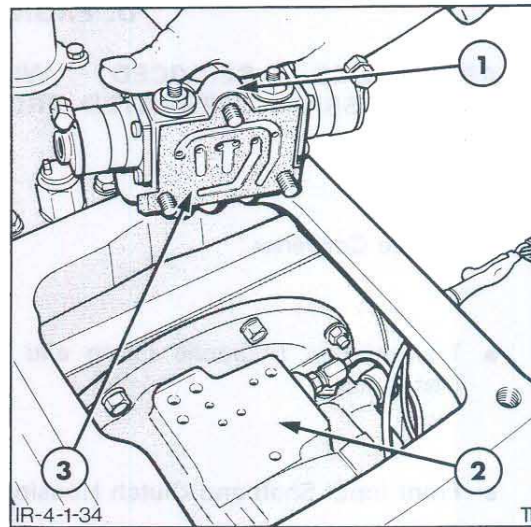

Figure 35
4. Remove the solenoid control valve securing bolts and remove the solenoid control valve from the distributor housing, Figure 35.